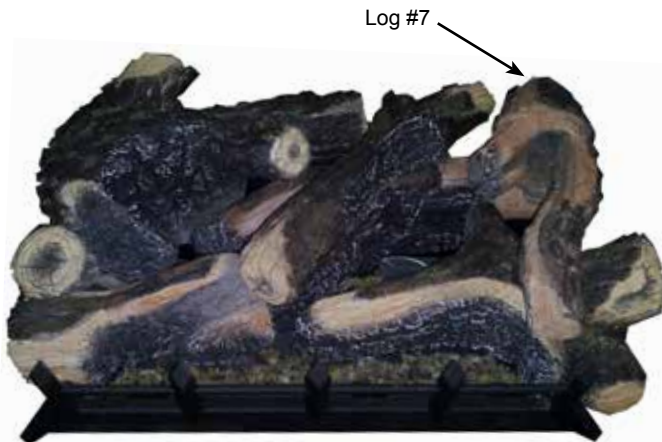

Figure 42
7. Place top right log #7 on the two (2) pins located on log #2 and log #1. *Figure 42*